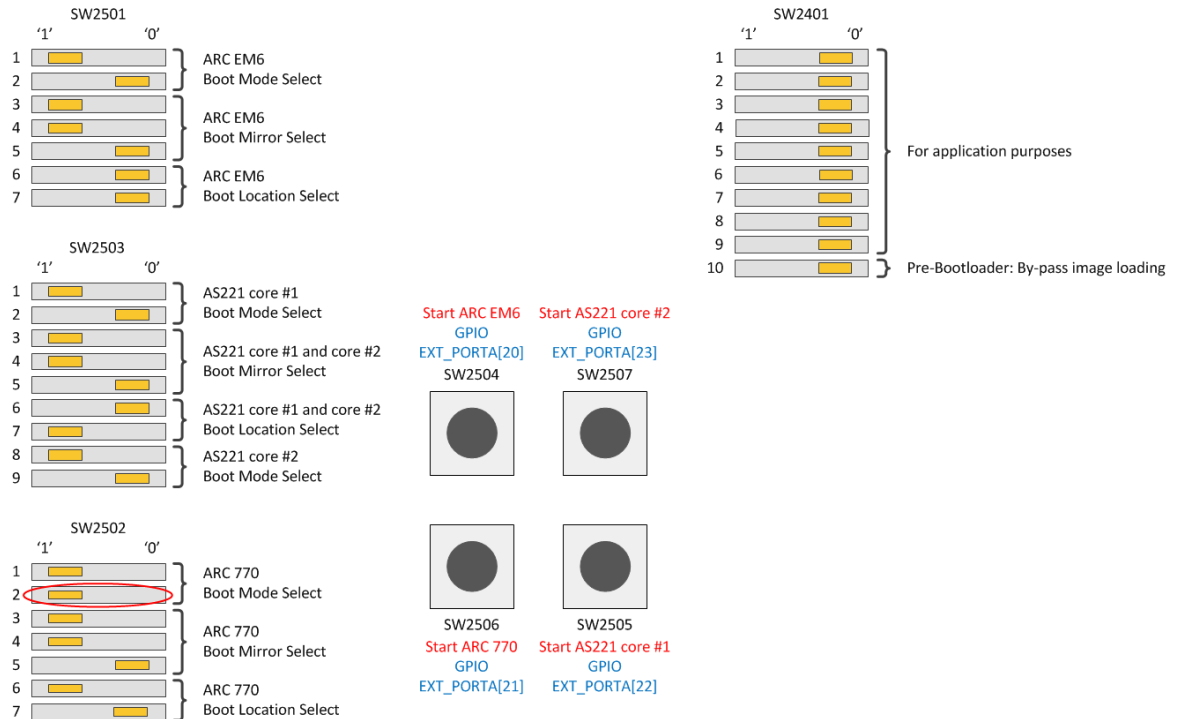

Figure 62 DIP switch settings for autonomous code execution on the ARC 770D
2. In a typical case the application shall be loaded and executed autonomously after reset. Set the DIP switches on the ARC SDP Mainboard to the default settings, then set bit 2 of the respective DIP switch to the OFF position (2 ). Figure 62 shows the DIP switch settings at the example of the ARC 770D. The change compared to the default settings is marked by a red ellipse. You can as well leave the DIP switches in the default position, if you prefer to start the execution by pushing the CPU Start button of the selected core.